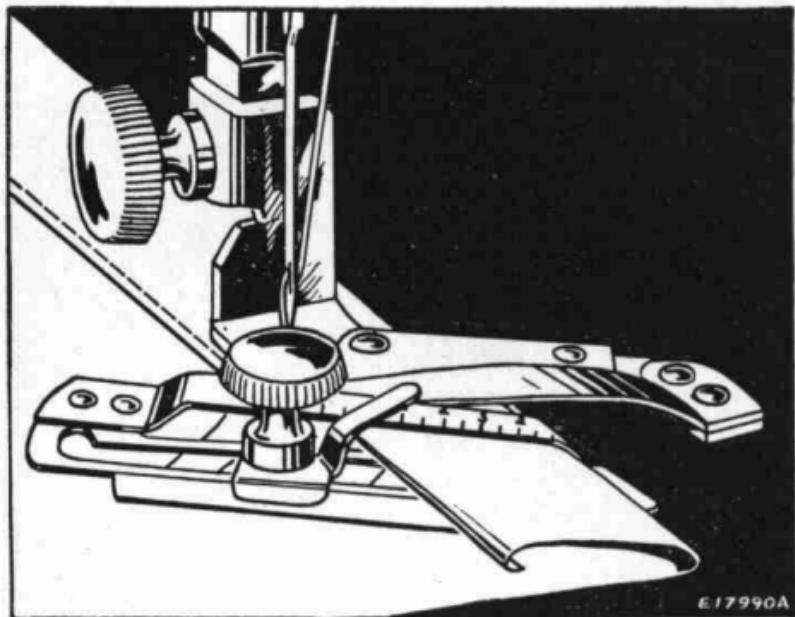

FIG. 42. SHOWING HOW ADJUSTABLE HEMMER IS USED FOR MAKING HEMS UP TO 15/16 INCH WIDE
- (3) Loosen the thumb screw on the hemmer and move the scale until the pointer registers with the number of the desired width of hem, No. 1 indicating the narrowest hem and No. 8, the widest, then tighten the thumb screw.
- (4) Place the cloth in the hemmer and draw it back and forth until the hem is formed, as shown in Fig. 42.
- (5) Draw the end of the hem back under the needle, lower the presser bar and commence to sew.
- (6) Guide sufficient cloth into the hemmer to turn the hem properly.